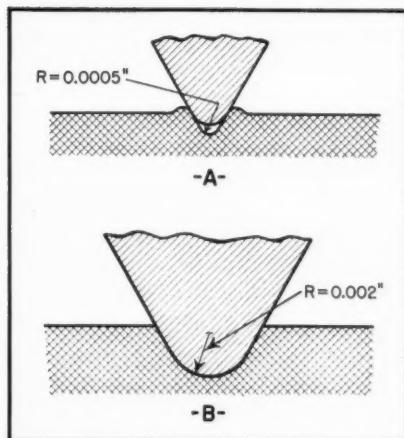

Fig. 2. Relative dimensions of embossed groove (A) and conventional acetate groove (B), together with recording stylus used for both types.
This small dimension necessitates the use of a much sharper stylus point than is used for acetate recording. A conical sapphire having a tip radius of 0.5 mil is used, with an inclined angle of 70 deg., resulting in a groove depth of 0.82 mils. The relative dimensions are shown in *Fig. 2*, where (A) represents the stylus of this recorder and the resulting groove, and (B) represents the conventional stylus used for acetate recording. Since no material is removed, the embossing process deforms the surface of the disc to some extent, as in-